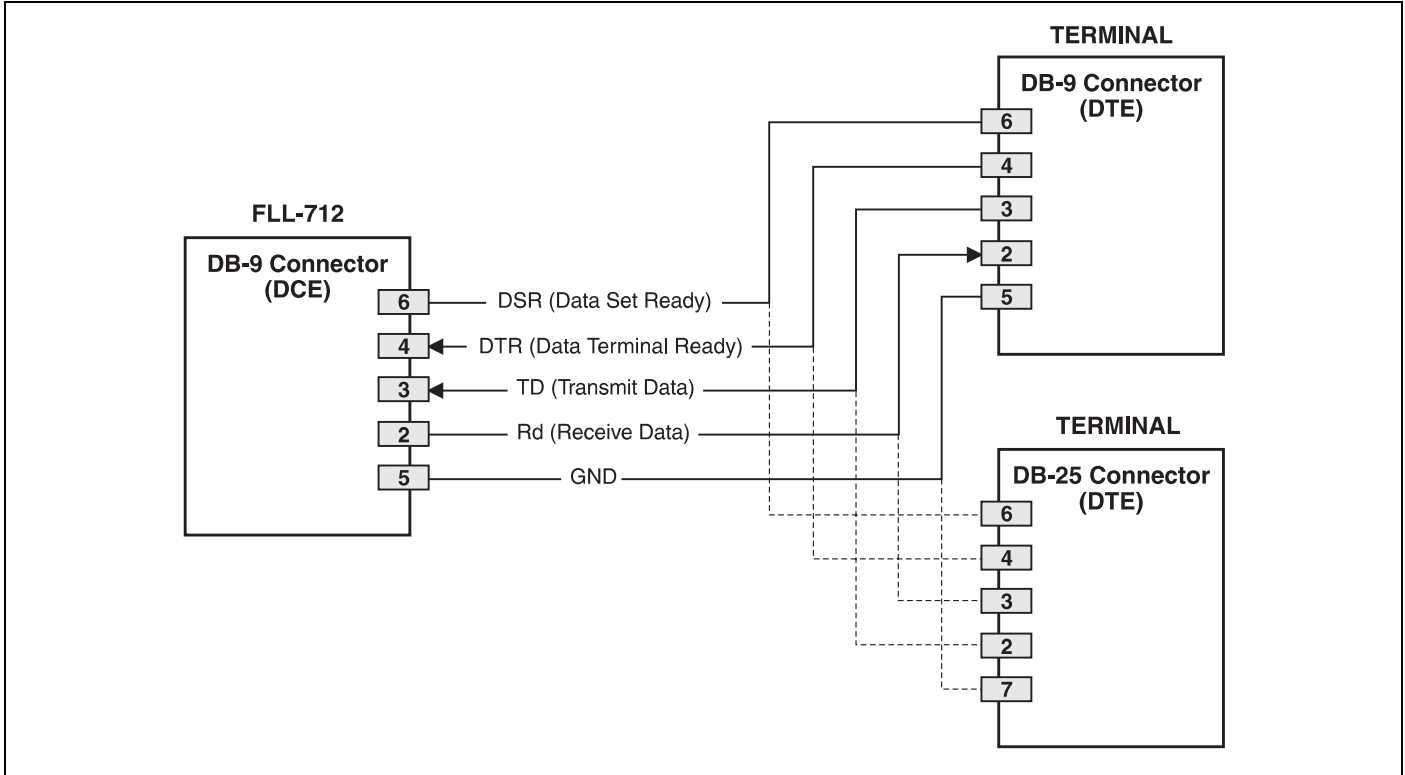

Figure 4. FLL-712 DB-9 Pin Outs. A standard RS-232 (DB-9) connector on the front panel provides access to the menu interface feature via a dumb terminal.
8.01 The terminal management function of the PG-Flex enables a technician to manage the entire PG-Flex system through an ASCII terminal (or modem with a null modem adapter) connected to the maintenance port at either the CO or the RT. The pin-outs for the standard RS-232 (DB-9) maintenance port connector are shown in Figure 4. With the management function, the technician can view system status, set configuration parameters, conduct testing, monitor performance, and obtain an inventory report.